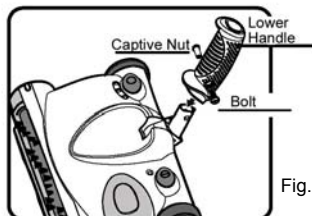

Fig. 2
2. Insert the lower handle. Fasten it with the captive nut and bolt that is provided. (Fig. 2)